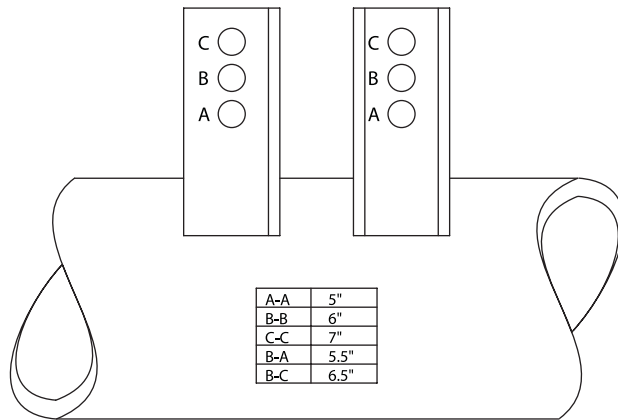

Figure 6. Brake adjuster mounting holes
3. Loosen this inner nut to allow the brake drum to rotate freely. Back off the inner nut one (1) full turn and rotate the wheel.
6. Install the lock washer (figure 6) onto the spindle. Make sure the lock washer is clean, the tang fits in the spindle keyway slot and the inner nut dowel fits in one of the holes in the lock washer.
7. If air brake chambers are replaced, the correct mounting holes must be used to correspond to brake adjuster length (figure 6).